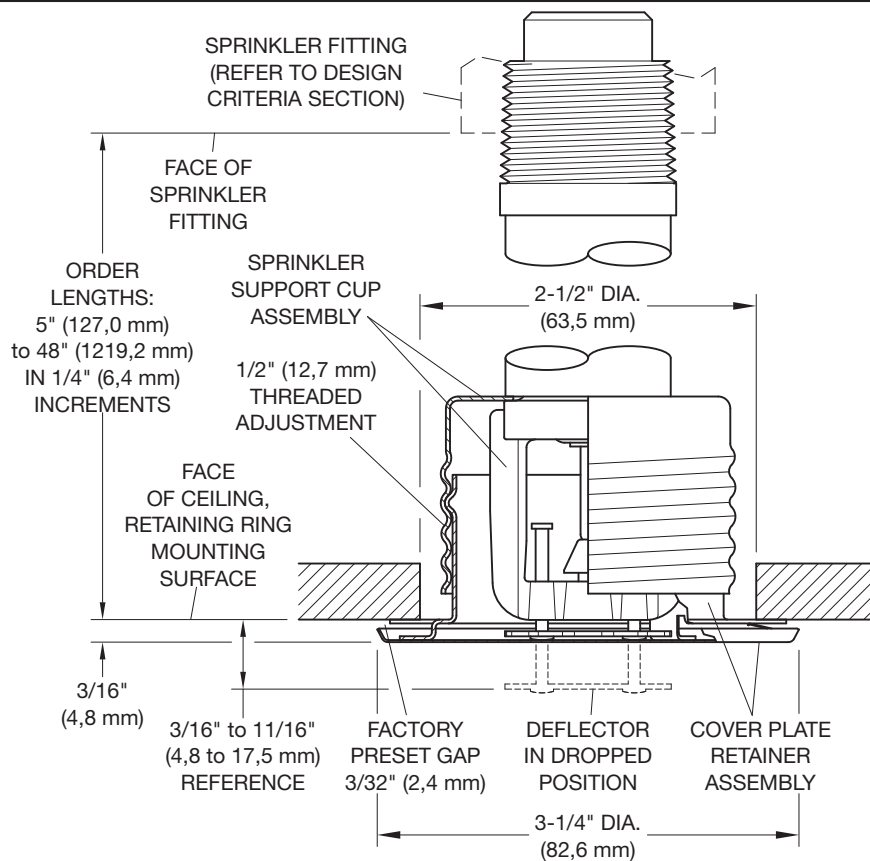

FIGURE 2
Step 5. Screw on the Cover Plate/Retainer Assembly until the Retainer (Figure 2) contacts the ceiling. Do not continue to screw on the Cover Plate/Retainer Assembly so that it lifts a ceiling panel out of its normal position. If the Cover Plate/Retainer Assembly cannot be engaged with the Support Cup or the Cover Plate/Retainer Assembly cannot be engaged sufficiently to contact the ceiling, reposition the Sprinkler Fitting.